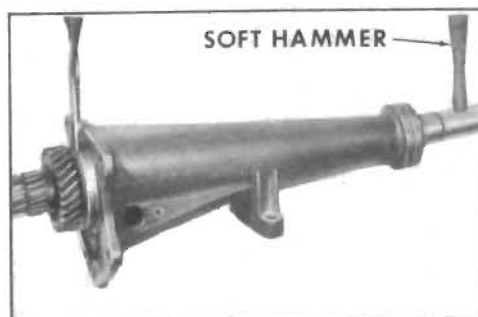

Figure 4-19—Mainshaft Removal
14. To remove mainshaft from extension, expand the bearing snap ring and tap the rear of the mainshaft with a soft hammer. Remove the complete mainshaft assembly from the extension. See Figure 4-19.